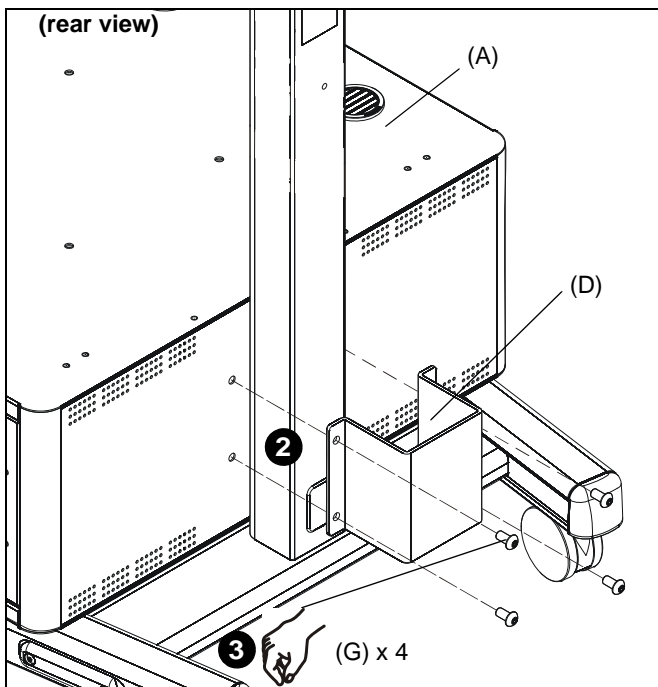

Figure 5
2. Place clamp bracket (D) around cart/stand and line up with holes on back of storage cabinet (A). (See Figure 5)
3. Insert four 5/16-18 x 5/8" button head cap screws (G) through clamp bracket holes and into holes on back of storage cabinet (A). (See Figure 5)